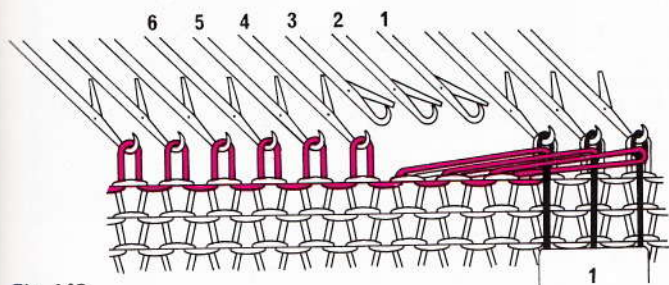

Fig. 148
- With the first transfer tool pick up stitches from needles 1–2–3. Move the transfer tool to the right, hook it onto the adjacent needles at the right and leave it hanging down in front of the knitting (fig. 148).